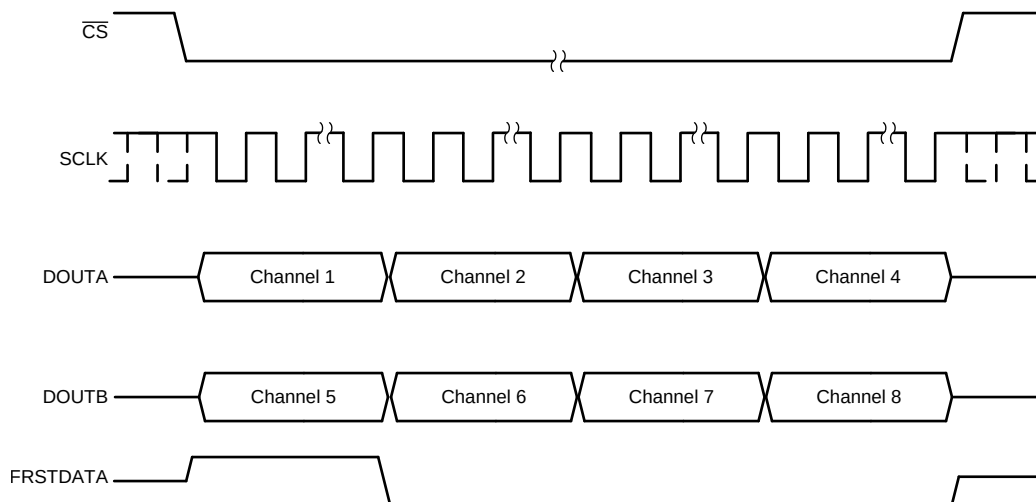

Figure 70. Data Read Back in the Serial Interface Using Both DOUTA and DOUTB Timing Diagram
- In order to minimize the time for the data read operation in serial mode, both DOUTA and DOUTB can be used to read data out of the device. In this case, the conversion results from the first set of channels (channels 1-4) appear on DOUTA and the conversion results from the second set of channels (channels 5-8) appear first on DOUTB. To read the data for all channels, provide a total of $18 \times 4 = 72$ SCLK cycles. This entire data frame can be created within a single $\overline{CS}$ pulse or each group of 18 SCLK cycles can be individually framed by the $\overline{CS}$ signal. Figure 70 shows this operation.